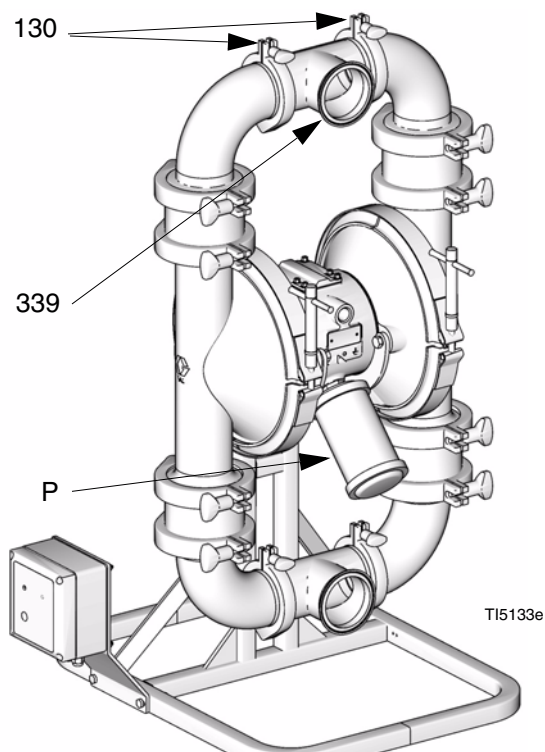

**FIG. 3 Typical Floor-Mount Installation**
- The typical installation shown in FIG. 3 is only a guide for selecting and installing system components. Contact your Graco distributor for assistance in planning a system to suit your needs.
| <p>A bleed-type master air valve (B) is required in the system to relieve air trapped between this valve and the pump. Trapped air can cause the pump to cycle unexpectedly, which could result in serious injury including splashing in the eyes or on the skin, injury from moving parts, or contamination from hazardous fluids. See FIG. 3.</p> |  |  |  |  |  |  |
1. Install the air line accessories as shown in FIG. 3. Mount these accessories on the wall or on a bracket. Be sure the air line supplying the accessories is grounded.
- a. Install an air regulator (C) and gauge to control the fluid pressure. The fluid outlet pressure will be the same as the setting of the air regulator.
- b. Locate one bleed-type master air valve (B) close to the pump and use it to relieve trapped air. Locate the other master air valve (E) upstream from all air line accessories and use it to isolate them during cleaning and repair.
- c. The air line filter (F) removes harmful dirt and moisture from the compressed air supply.
2. Install a grounded, flexible air hose (A) between the accessories and the 1/2 npt(f) pump air inlet (M). Use a minimum 3/8 in. (9.5 mm) ID air hose. Screw an air line quick disconnect coupler (D) onto the end of the air hose (A), and screw the mating fitting into the pump air inlet snugly.
A fluid drain valve (J) is required to relieve pressure in the hose if it is plugged. The drain valve reduces the risk of serious injury, including splashing in the eyes or on the skin, or contamination from hazardous fluids when relieving pressure. Install the valve close to the pump fluid outlet. See FIG. 3.
1. Use flexible, grounded fluid hoses (L) where possible.
3. Install a fluid drain valve (J) near the fluid outlet. See FIG. 3.
4. Install a shutoff valve (K) in the fluid outlet line.